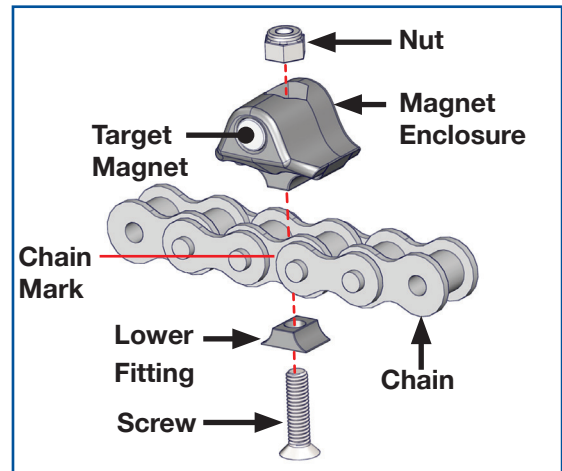

FIG. 5-2: Magnet Assembly
3. Push gate 6" (or so) to give physical access to marked location on chain, then attach the limit target magnet to the fixed (internal) link, as shown in FIG. 5-2. The target sensor wiring remains the same regardless of which direction the gate opens.